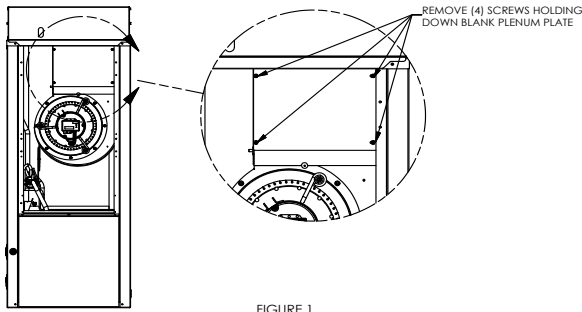

FIGURE 1
3. Locate the blank filler plate in the plenum, above the blower wheel. Remove the (4) screws holding down the plate. Remove the plate and set aside the (4) screws for mounting the heater. See Figure 1.